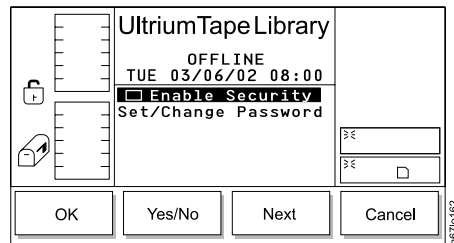

Figure 238. Secure Dialog
4. Press the button below the **Secure** softkey. The Secure Dialog displays (see Figure 238).